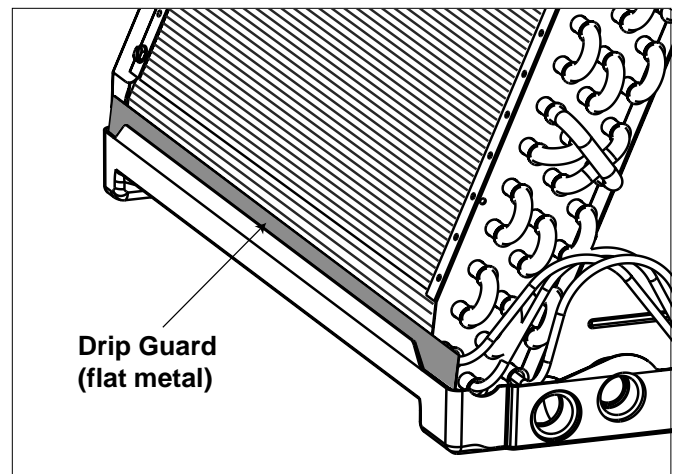

Figure 2
5. Install one guard between the fins and the drain pan on the outside edges of the coil (see Figure 2). It may be necessary to wipe the fins over in order to get the required clearance to slip the guard in place. The guard itself may be used by pulling it along the coil between the fin stock and the drain pan.